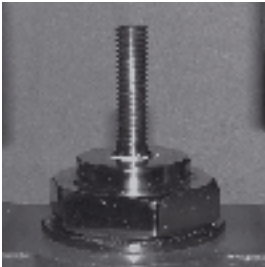

Fig. 9
- Push the valve stem down so that the mark lines up with the stuffing box (Figure 9).